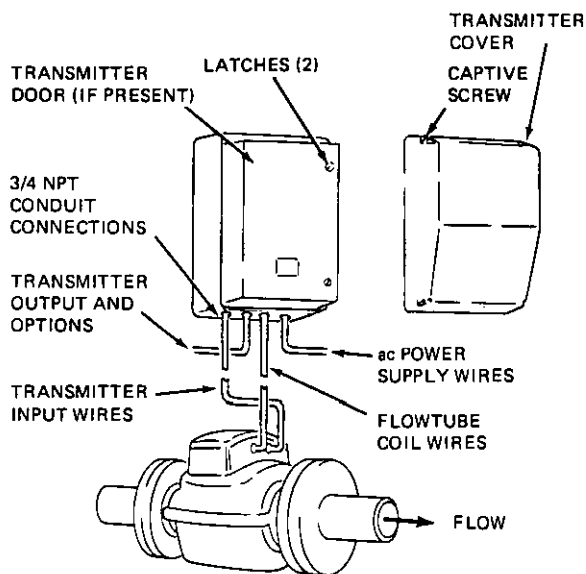
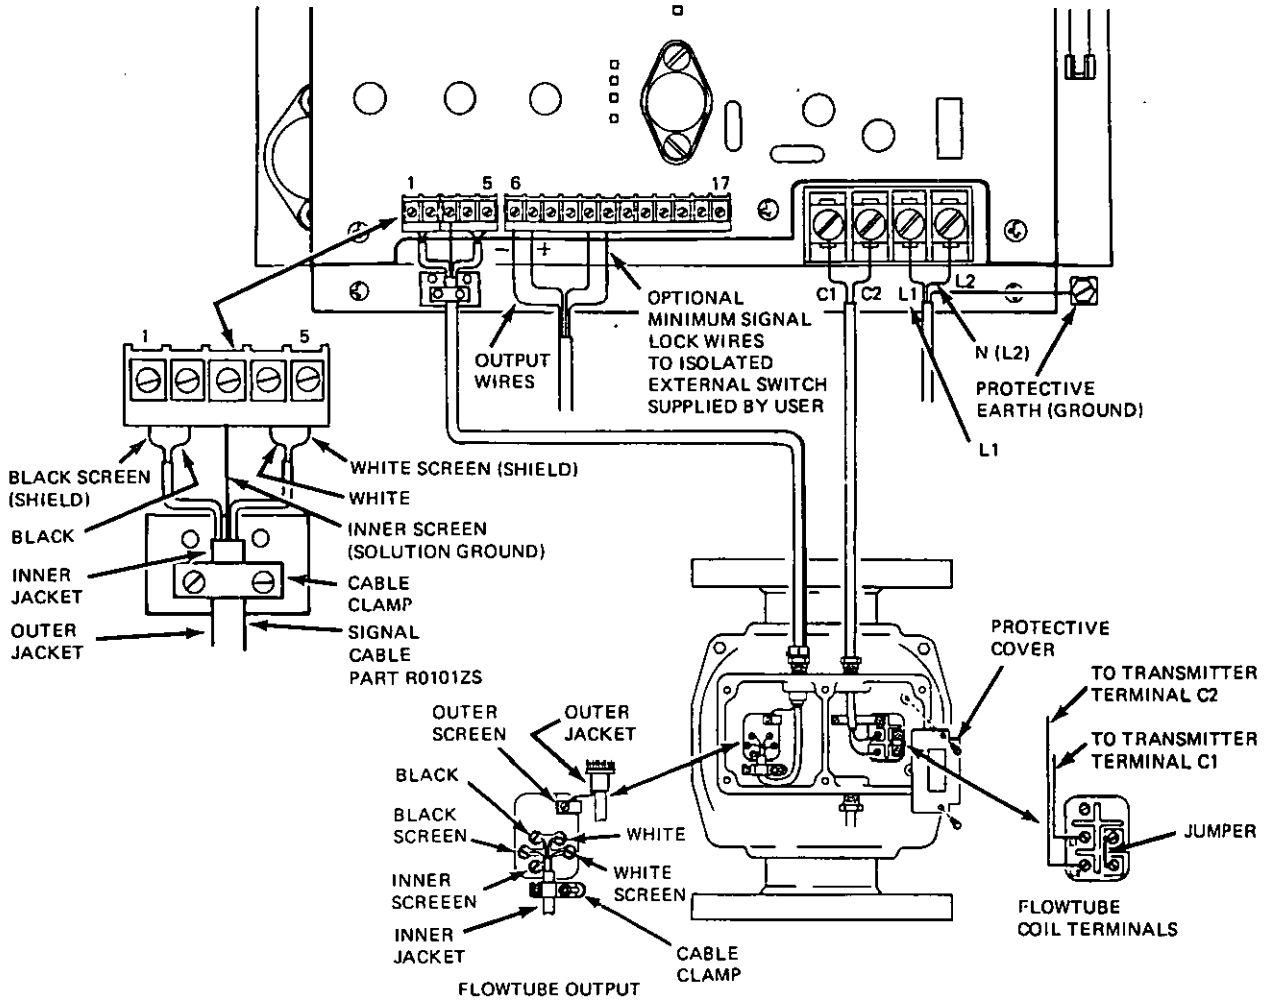
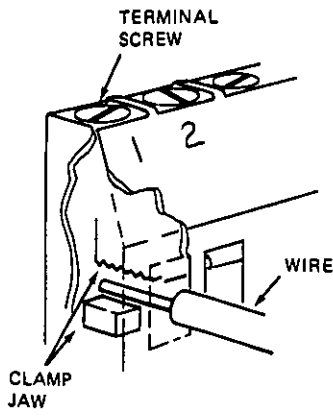

Figure 2.
Figure 3.
Figure 4.
Unlike systems with ac coil excitation, ac power must not be present in the flowtube power connection box when an 896 Transmitter is used with a 2800 Flowtube. All signal and power wires must be connected as shown in Figure 3.
2. Refer to Figure 2. Unscrew the six captive screws in transmitter cover and lift off cover.
3. If transmitter has a door (supplied with some options), turn the two screw-type latches on door (shown in Figure 2) 1/4 turn counterclockwise. Open door.
4. Run input signal, output signal, ac supply, and flowtube coil wires through separate conduit. Wires for minimum signal lock and other options can be run through same conduit as output wires. Use steel conduit for electromagnetic shielding. Connect conduit to transmitter as shown in Figure 2.
7. Refer to Figure 3. Connect input-signal wires to flowtube output terminal block as shown. Clamp input cable over its inner jacket with cable clamp.
8. Remove protective cover from coil-drive terminals (shown in Figure 3). If flowtube is installed with two conduit connections (see Figure 2) facing downstream, connect coil-drive wires to flowtube terminals as shown in Figure 3. If flowtube is installed with two conduit connections facing upstream, reverse coil-drive wire connections at flowtube.
10. Refer to Figure 3. Position transmitter input cable so that black wire is near transmitter terminal 2 (on left) and white wire is near terminal 4 (on right).
12. Connect input wires to transmitter terminals 1 through 5 as shown in Figure 3. When connecting wires to terminals 1 through 17, insert wire in terminal slot so that wire is on top of clamp jaw as shown in Figure 4. Turn terminal screw to tighten clamp. Check that wire is secured in place after tightening clamp.
5. Start process liquid flow through flowtube. Voltmeter reading should increase. If it decreases, turn off ac power, reverse wires at coil-drive terminals C1 and C2 (see Figure 3) in transmitter, then reapply power. System is now ready for operation